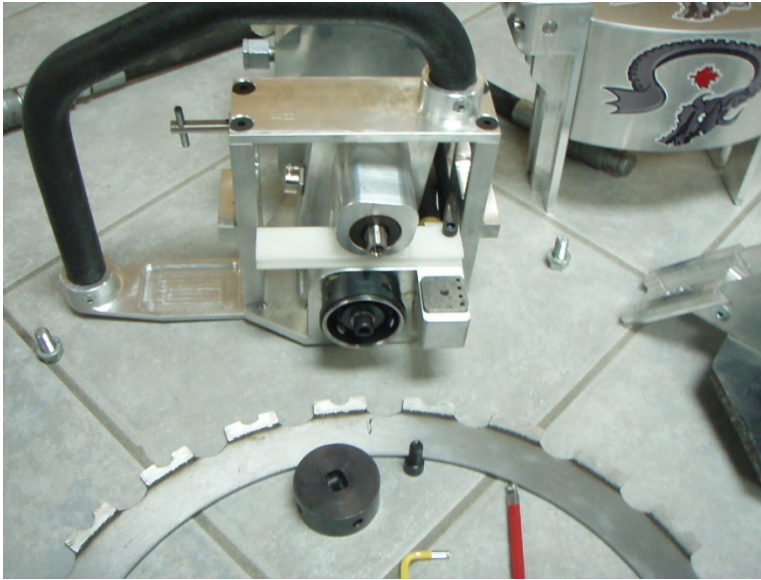

Figure 5
Step 5: Hold transmission in neutral position and remove upper drive wheel and blade (figure 5).